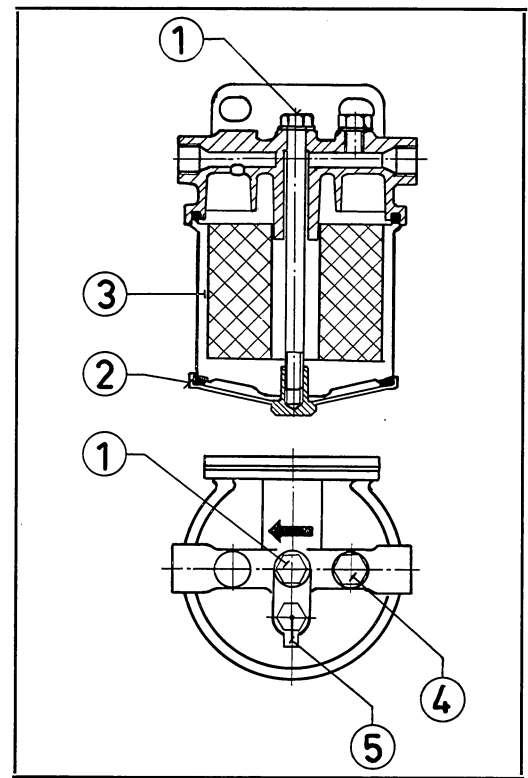

Fig. 13 Fuel filter
The fuel filter insert is not to be cleaned, the only servicing being replacement. This is done by releasing the centre screw 1 (Fig. 13), removing the cover base (2) and replacing the insert (3). The nipple bolt (5) connects the return fuel line to the tank and it also functions as a bleed screw. The leak-off oil line from the injectors is fixed to the filter by means of the nipple bolt (4). Normally, the filter insert should be replaced after every 300 hours of operation.